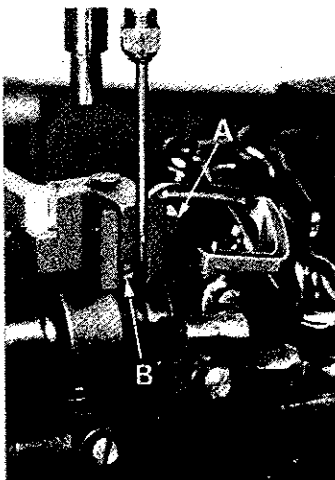

Fig. 10
Parallel adjustment can be made by loosening nut (A, Fig. 10) and turn screw (B) clockwise to lower front of feed dog, counterclockwise acts the reverse. When properly set, retighten nut (A).
At extreme forward end of travel, rear needle guard (C, Fig. 10) must be set horizontally not to contact rear of needle (D) with a maximum clearance of .005 inch (.127mm). Guard should be set as low as possible, yet have its vertical face approach approximately 3/64 inch (1.2mm) of needle point until point of looper (E), moving to the left, is even with the needle. To move needle guard forward or backward, loosen screw (F), move needle guard as required, and retighten screw. To raise or lower needle guard, loosen screw (F), and turn screw (G) clockwise to lower needle guard or counterclockwise to raise it. Retighten screw (F) after guard is properly set.